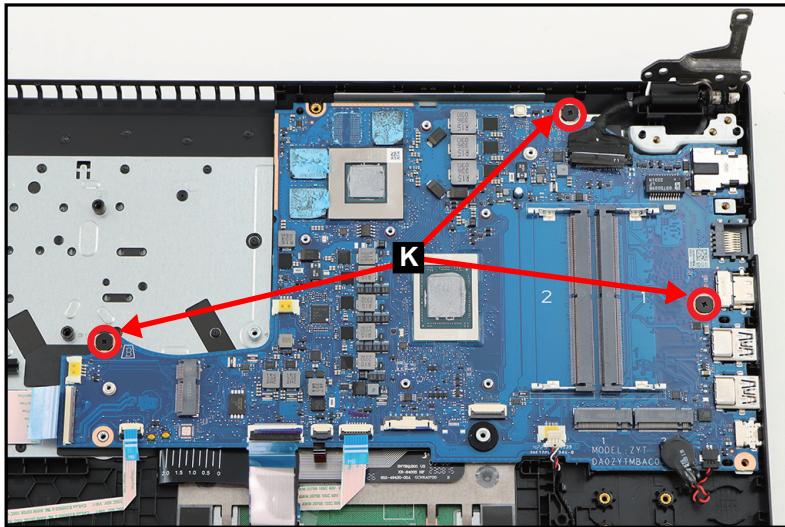

Figure 1-37. Mainboard Removal
13. Remove three (3) screws (K) securing the mainboard (Figure 1-37).